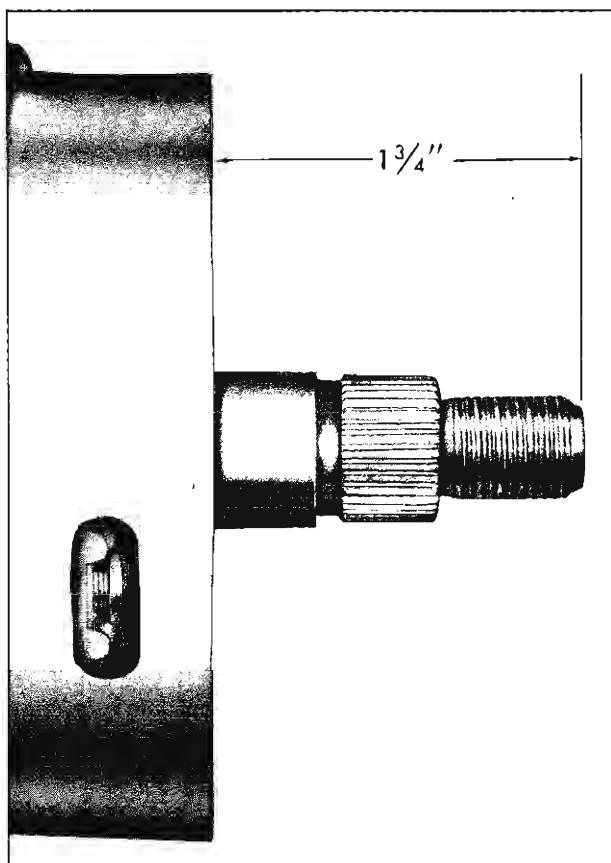

Fig. 8—Steering Shaft Position (Chevelle only)
**NOTE FOR CHEVELLE ONLY:** Before installing steering wheel make certain that steering shaft stop clamp at bottom of mast jacket is secured and that steering shaft is 1-3/4 inches above the top of directional housing (fig. 8).
**NOTE FOR CHEVELLE ONLY:** Before installing hub assembly make certain that steering shaft stop clamp at bottom of mast jacket is secured and that steering shaft is 1-3/4 inches above the top of directional housing (fig. 8).